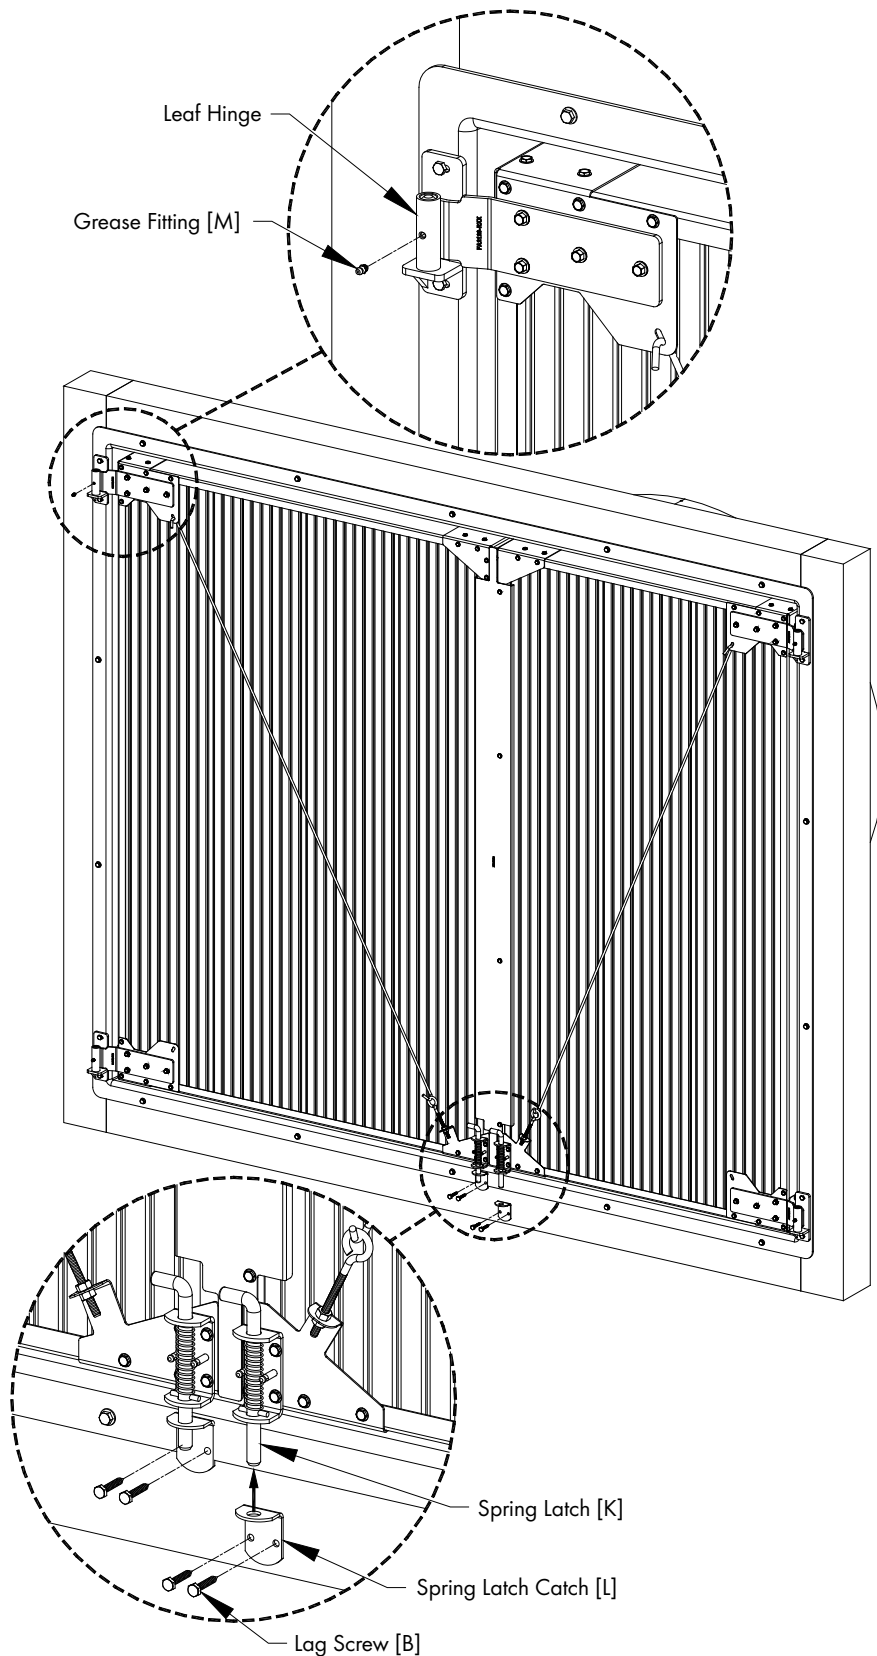

Figure 26
With both doors in the close position, slide (1) Spring Latch Catch [L] over each Spring Latch [K] $\frac{3}{4}$ " and fasten to LTX Housing Flange using (2) Lag Screws [B]. See Figure 26. Also, fasten (1) Grease Fitting [M] to each Leaf Hinge, then apply 1-2 shots of grease (not provided) to the Leaf Hinge Grease Fitting. See Figure 26. DO NOT over tighten Grease Fitting as this may cause the hinge to bind on the pin.